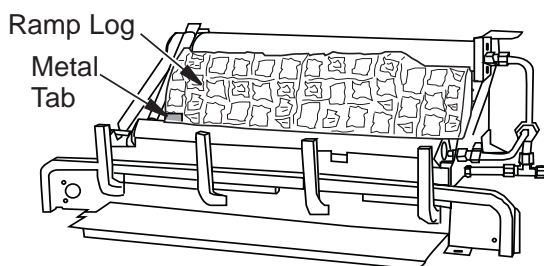

Figure 24 - Installing Fiber Ramp Log
1. Place fiber ramp log in center of chassis as shown in **Figure 24**. The fiber ramp log can be identified by the shape and much lighter weight when compared to the other logs. The log must sit flat on the black sheet metal and behind the left metal tab as shown. Make sure the side marked "BOTTOM" is setting down.